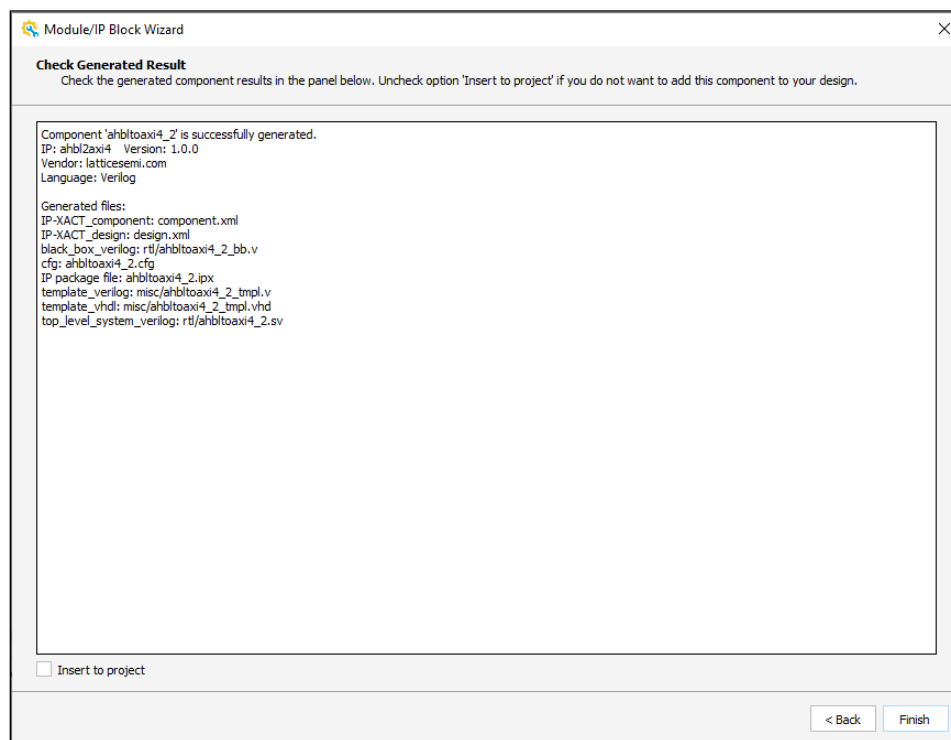

Figure 4.3. Check Generated Result
- Click the **Generate** button. The **Check Generated Result** dialog box opens as shown in Figure 4.3. This dialog box shows the design block messages and results.